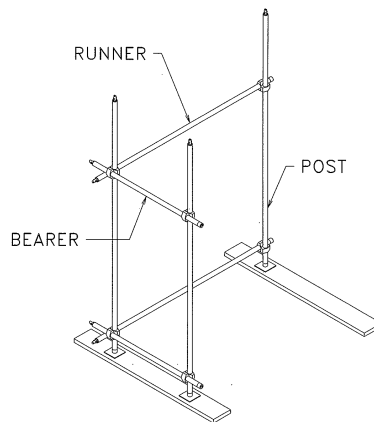

FIGURE 2
2. Insert another post into a base and secure – this will make up the end of the scaffold. Attach the first two (2) bearers transversely directly above the runners keeping the clamps of the runner and bearer as close as possible. Note: the bearers should be at least 4” but not more than 12” longer than the post spacing. See Figure 2